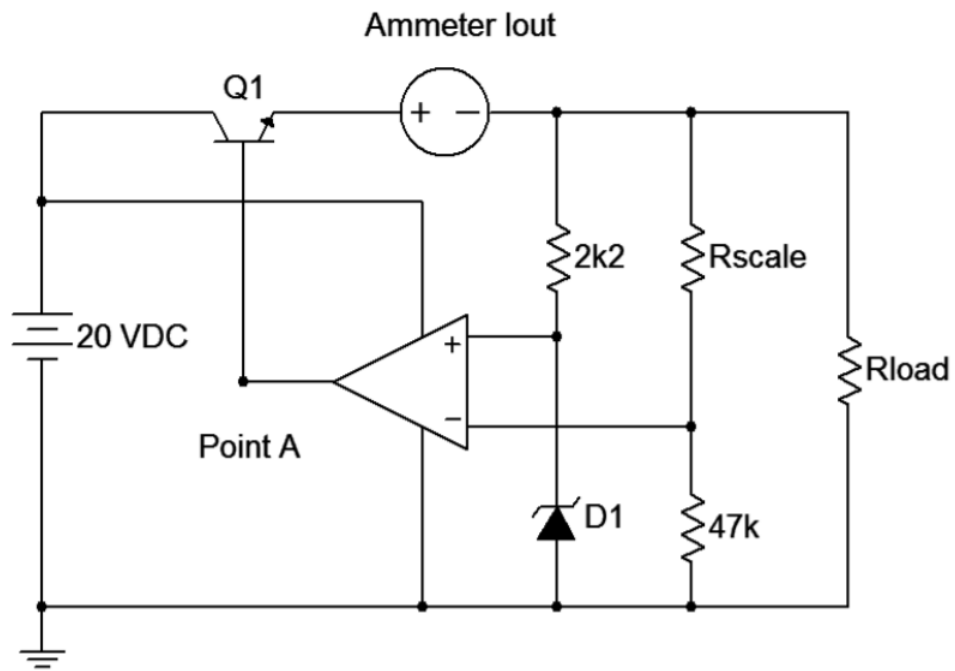

Figure 15.5.1
3. Connect the circuit of Figure 15.5.1 using an R_{scale} of $47k \Omega$, and an R_{load} of $100k \Omega$.